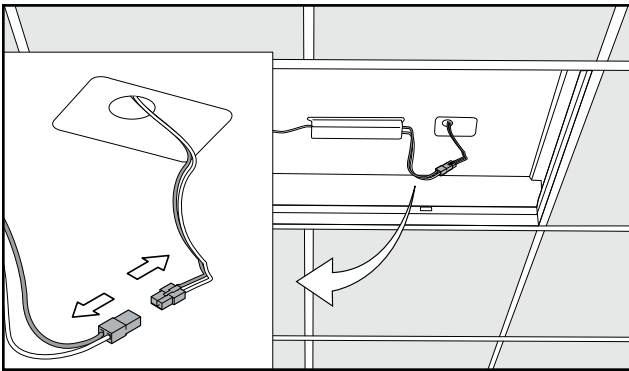

Figure 4.
4. Disconnect existing fixture ballast from the supply voltage. (Fig. 4).